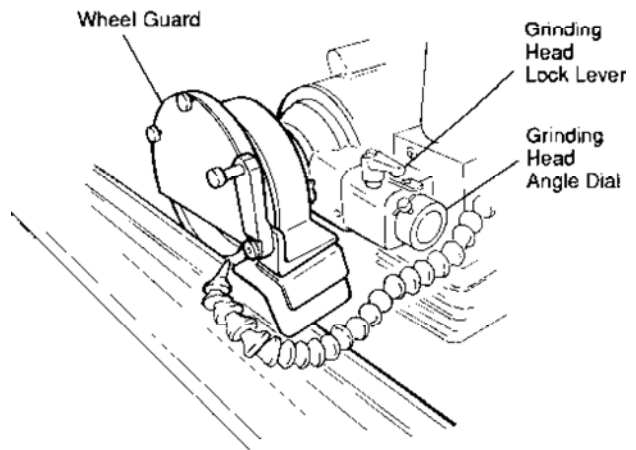

FIG. 44
3. Loosen the grinding head lock lever and rotate the head to the horizontal position. See FIG. 44.